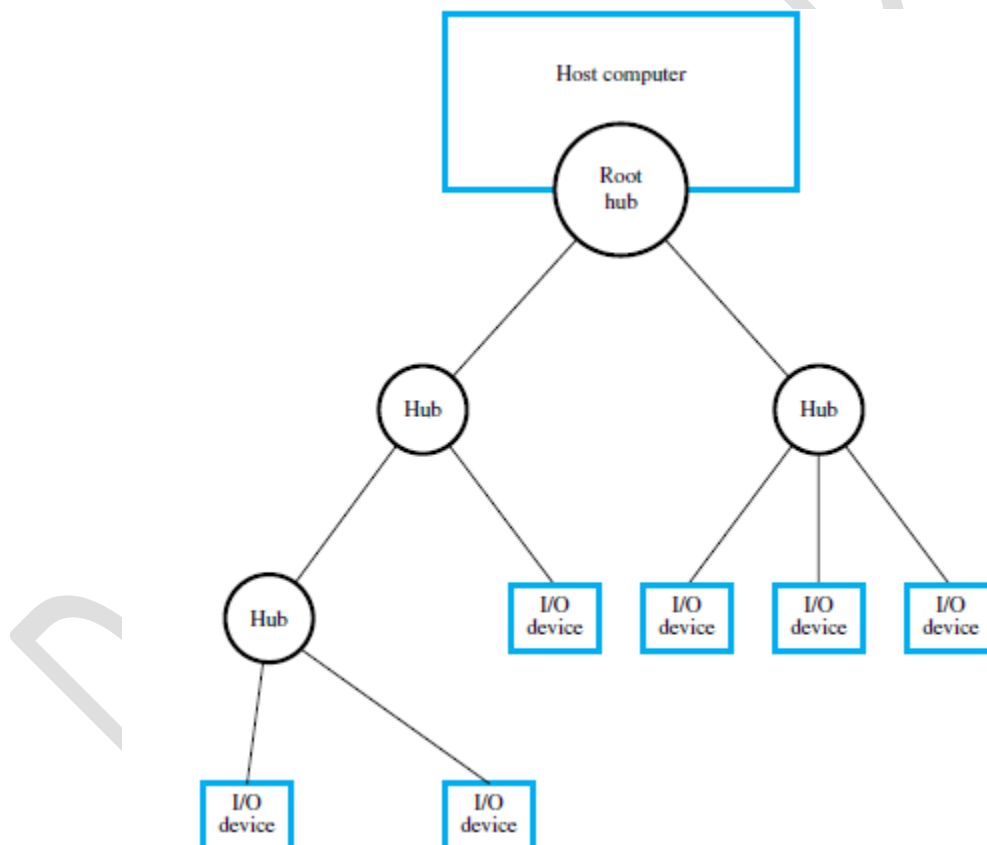

Figure 7.17 Universal Serial Bus tree structure.
- To accommodate a large number of devices that can be added or removed at any time, the USB has the tree structure as shown in the figure 7.17.